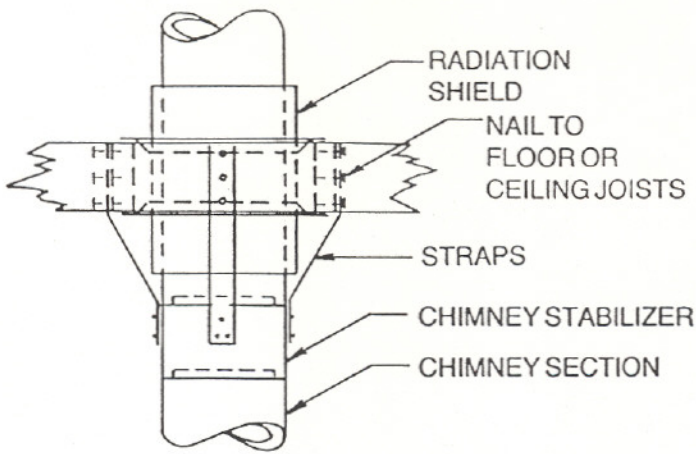

Figure 14
- Offset/Returns and Chimney Stabilizers have straps for securing them to joists or rafters. Chimney Strapping SZ810 is available or may be locally purchased and used in conjunction with Joint Bands to secure the chimney. Offsets/Returns are also used in wall or chase construction. Chimney Brackets may be used to stabilize the chimney. See Figures 14, 15 and 16.